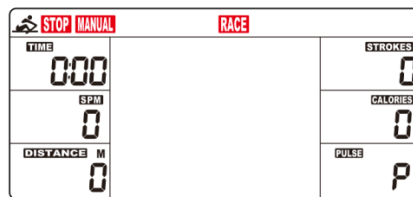

Fig. 2
- (1) Clock will flash on the meter. Press UP or DOWN buttons to select the hour. Press ENTER button to confirm your selection. Press UP or DOWN buttons to select the minute. Press ENTER to confirm.
- (2) Year will flash on the meter. Press UP or DOWN buttons to select the year. Press ENTER to confirm.
- (3) Month will flash on the meter. Press UP or DOWN buttons to select the month. Press ENTER to confirm.
- (4) Day will flash on the meter. Press UP or DOWN buttons to select the day. Press ENTER to confirm.
- (5) Alarm will display on the meter. If you want to set an alarm, Press UP or DOWN buttons to turn on/off the alarm. If alarm is set to on, press ENTER, alarm clock will flash. Press UP or DOWN buttons to set your desired alarm.
- (6) If no alarm is set, press ENTER, the meter will go into the SPORT screen (Fig. 2).